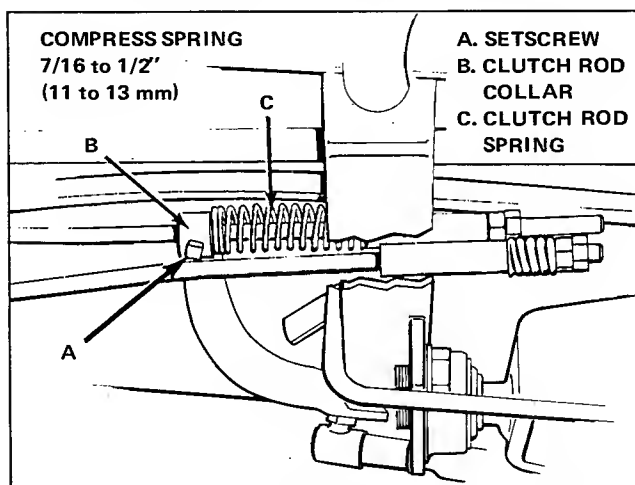

Figure 34. Clutch Rod Tension Adjustment
2. Loosen setscrew (item A, figure 34) in collar (item B). Move the collar forward or backward so that the clutch rod spring (item C) is compressed from 7/16 to 1/2 inch (11 to 13 mm).